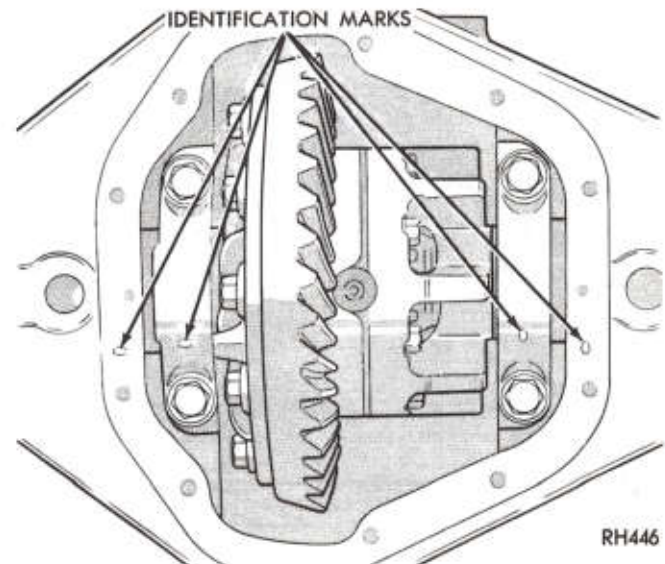

Fig. 4—Bearing Cap Identification
(6) Check the clearance between the differential bearing cap and bearing cup by trying to insert a piece of .003 inch (.08 mm) feeler stock between them. A .003 inch (.08 mm) feeler should not enter between the bearing cap and cup. A clearance of more than .003 inch (.08 mm) could be caused by bearing cup having turned in carrier, causing excessive wear.
(7) Note identifying letters stamped on bearing caps and face of carrier housing seal surface (Fig. 4). Letters stamped on left side are in horizontal position while right side are in vertical position. Always match identifying letters for proper reassembly.
(8) Loosen and remove the differential bearing caps